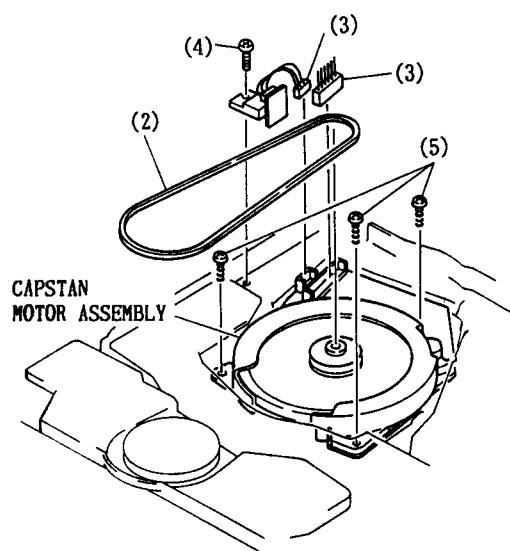

Fig. 7-3 Capstan Motor Assembly
3. Capstan Motor Assembly (Fig. 7-3)